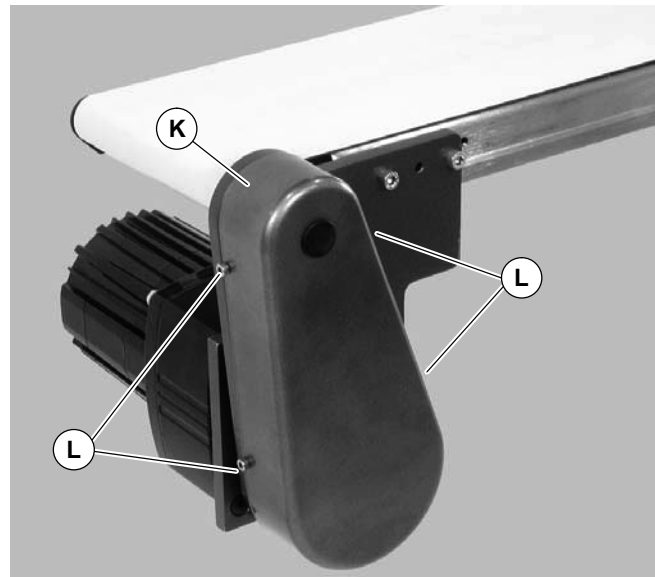

Figure 14
- Install cover (K of Figure 14) with four (4) screws (L). Tighten to 35 in-lb (4 Nm).
1. Remove four (4) screws (L of Figure 14) and remove cover (K).
4. Install cover (K of Figure 14) with four (4) screws (L). Tighten to 35 in-lb (4 Nm).
6. Install cover (K of Figure 14) with four (4) screws (L). Tighten to 35 in-lb (4 Nm).
4. Remove four (4) screws (L of Figure 14) and remove cover (K).